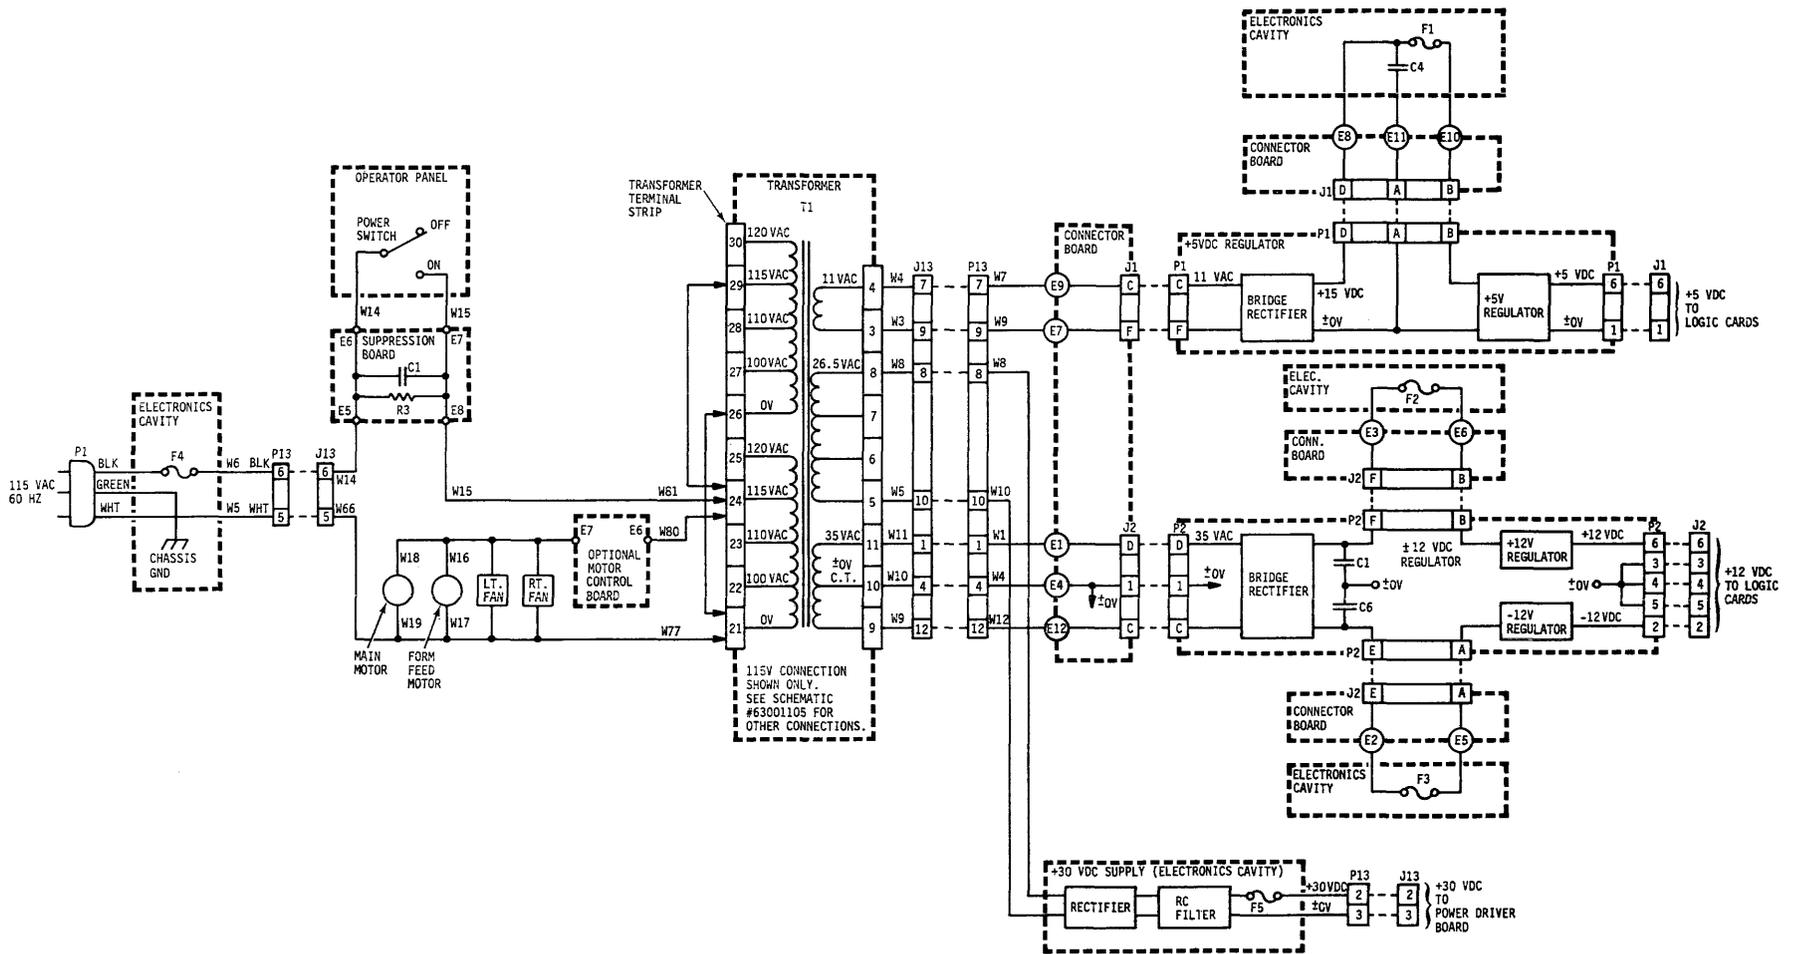

Figure 4-31. POWER DISTRIBUTION DIAGRAM
- (1) A paper empty condition ($\overline{\text{PE}}$ is low),
- (2) The printer is deselected (SEL is low),
- (3) A malfunction in the video circuit ($\overline{\text{LD}}$ is low). If the print head travels from the left limit switch (RTPSW) to the right limit switch (EOPSW) without a single STROBE being generated, then the LD flip-flop is set indicating an error condition.
4.8 POWER SUPPLIES (Figure 4-31, Schematics - Section 7)
The complete power distribution circuit for the 101A is shown in Figure 4-31, from the primary input (115 VAC, 60 Hz) to the DC voltages developed by the internal power supplies for driving the logic circuitry.